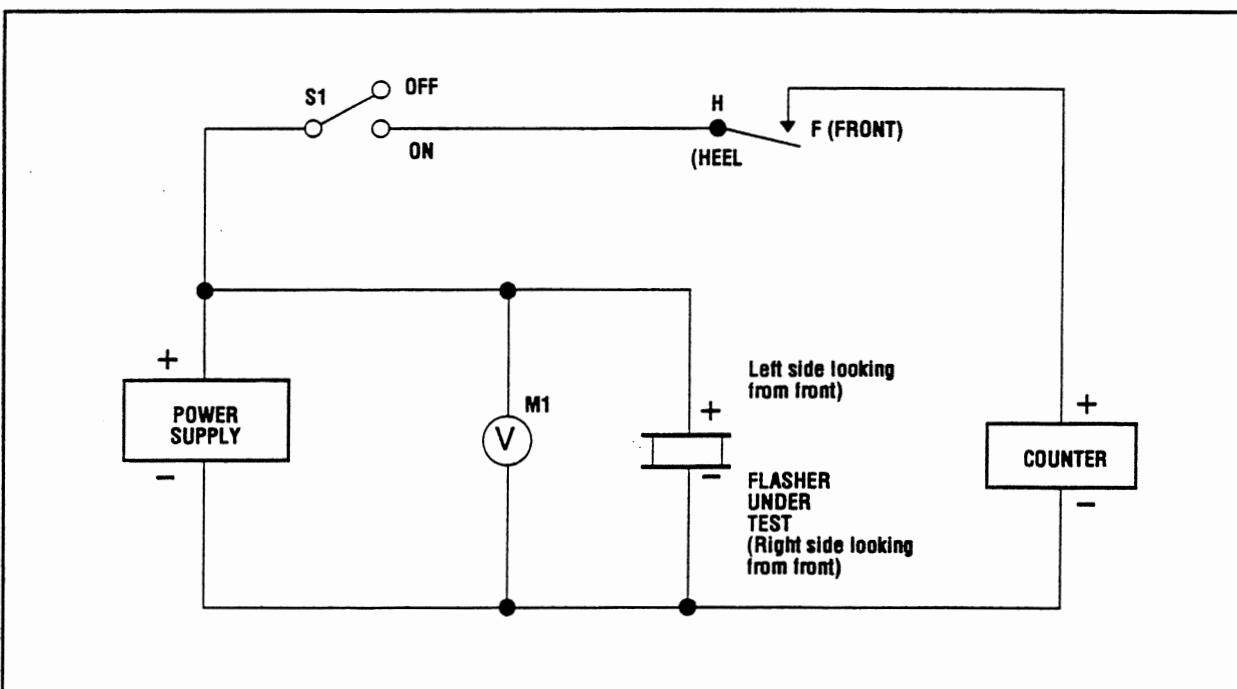

Figure 3-7. Flasher Relay, Test Setup
- a. With the power supply off, connect the relay under test and the required test equipment as shown in Figure 3-7.